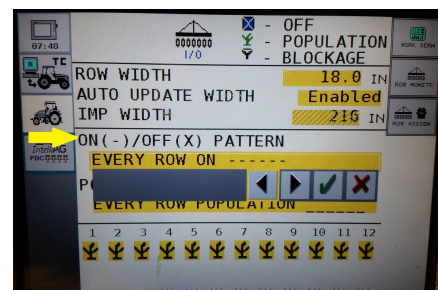

Figure 39
Step 14. Select **ON/OFF** Pattern. Similar to Step 17 of Material Setup, except Step 17 was for control purposes and here it is for monitoring only. (Figure 39)